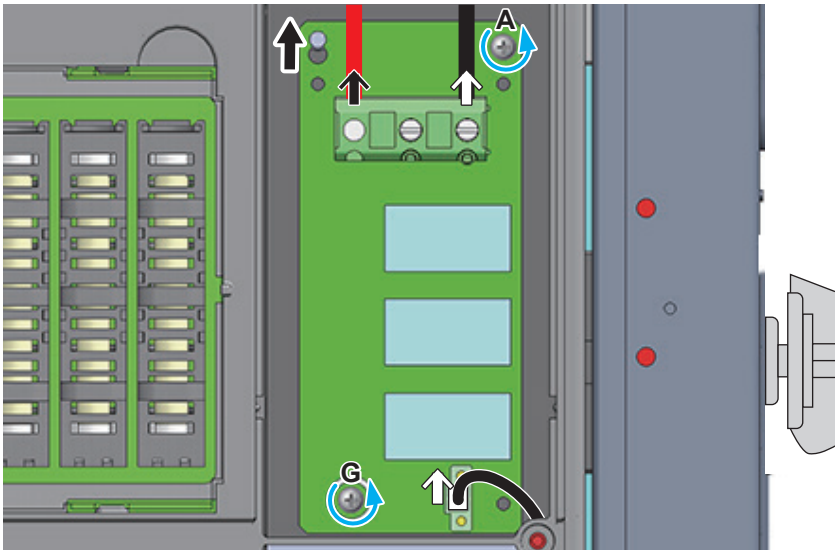

Figure 5-8: Remove wirings as connectors of DC SPD
- **To remove the defective DC SPD (Figure 5-8)**
3. Remove two self-retaining screws located on the right (DC) side of the DC SPD PCB.
Tighten the five screws to a torque value shown in **Figure 5-8**.